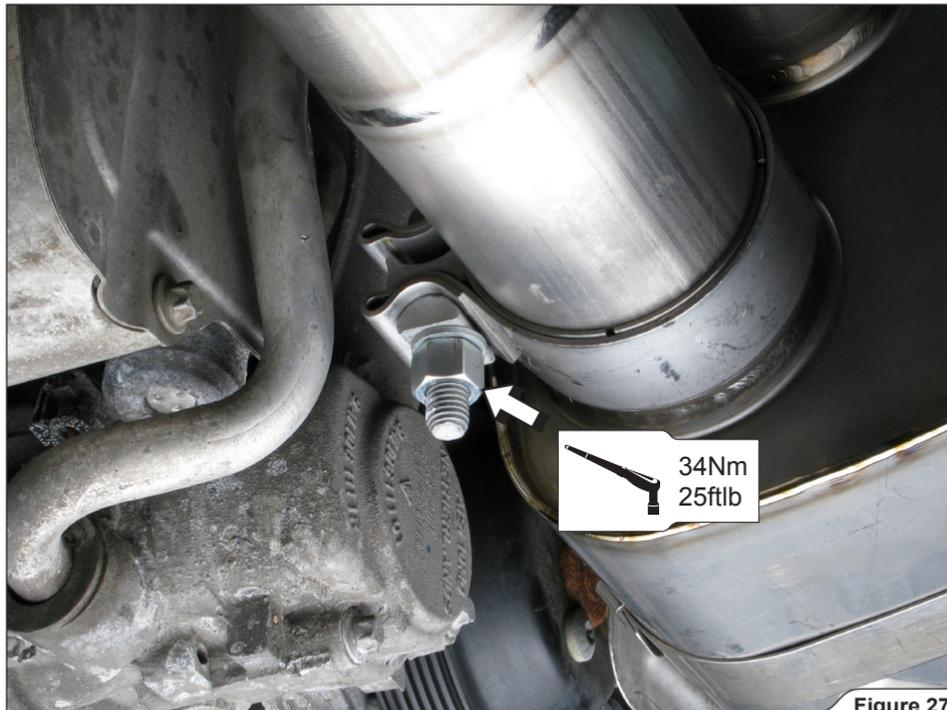

Figure 27
13. **For Slip-On with optional Link Pipes only:** tighten the marked link pipes' clamps to a specified torque, on both sides of the vehicle (**Figure 27**).